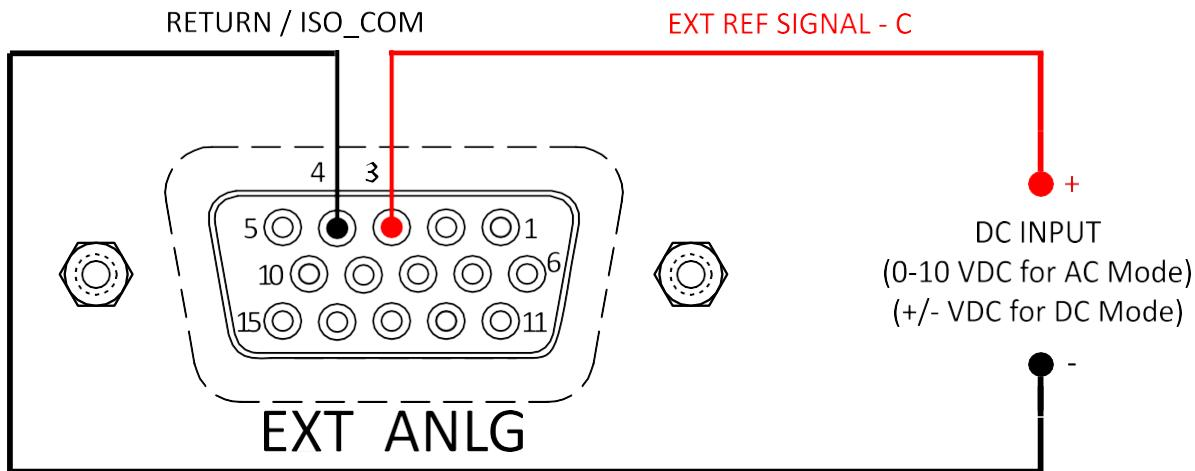

Figure 4-18: External Analog Programming – Reference DC Source for Phase B
- Pin 2 (External Reference Signal – Phase B) and Pin 4 (Return / ISO_COM) are to be connected to the DC source to vary the output voltage for Phase B, refer to Figure 4-18.